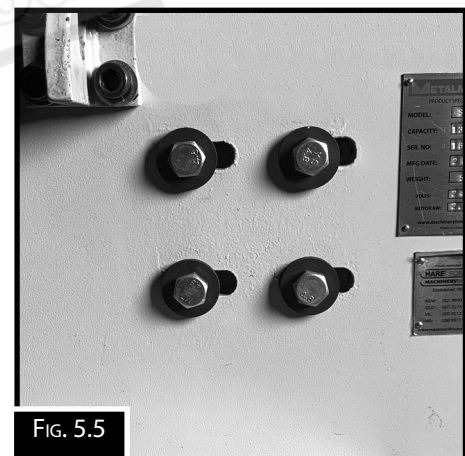

FIG. 5.5
1. Loosen the 4 bolts on both sides of machine, (Fig. 5.5)